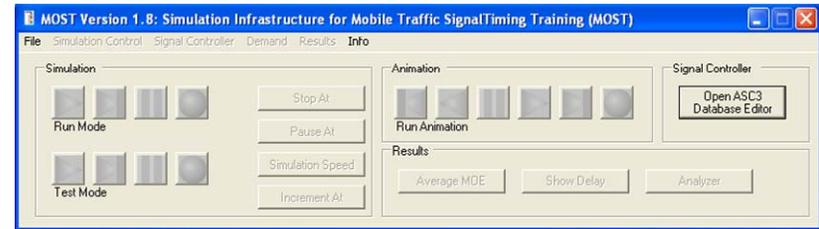

Figure 2 MOST interface window
- Explore the various elements of the interface, including the two Run Modes, Pause, and Stop. See Figure 2.